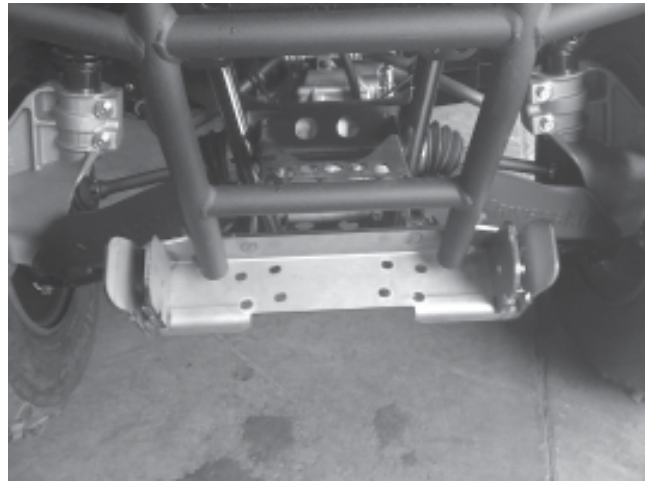

Figure 5
4. Pull the lower section of the front bumper away from the vehicle frame enough to allow plow mounting bracket to pass through (Figure 5). The bumper should only be pulled out enough to allow the bracket to fit into the frame as the front body plastic is secured to the bumper.